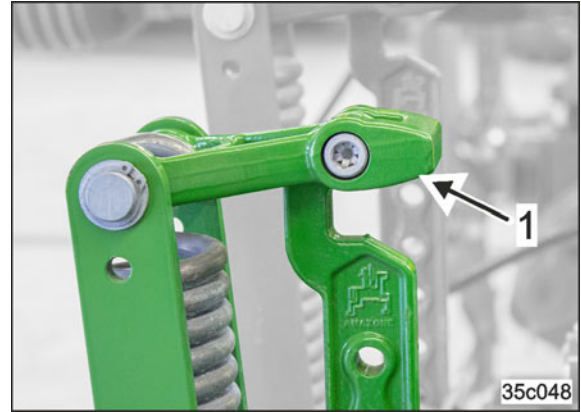

Fig. 114
The recessed grip (Fig. 114/1) serves to safely adjust the working depth.
2. Grab the wheel mark eradication by the recessed grip (Fig. 114/1)